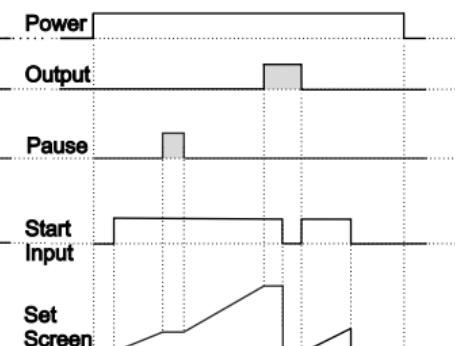

Figure 3.4
3.2.2 If Upcount **dEct** =0 and **outF** is **0FF** the control diagram is shown in Figure 3.4